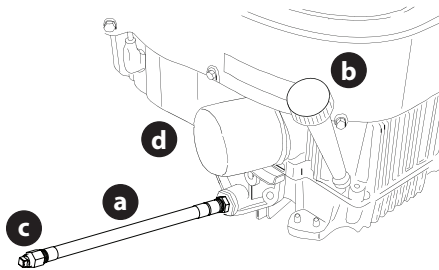

Figure 40
- Locate the oil drain hose (a) on the side of the engine (Figure 40).
- Place an appropriate oil collection container with at least a 2.5 quart (2.37 liter) capacity below the opening of the oil drain hose, to collect the used oil. Remove the oil fill cap/dipstick (b) from the oil fill tube (Figure 40).
- While holding the free end of the oil drain hose over the oil collection container, unscrew the square head hose plug (c) from the end of the oil drain hose (Figure 40). Drain the engine oil into the collection container.
- Remove the oil filter (d) and drain into the collection container (Figure 40).
- Replace the oil filter (d), and refill the engine with new oil as instructed in the Engine Operator's Manual (Figure 40).